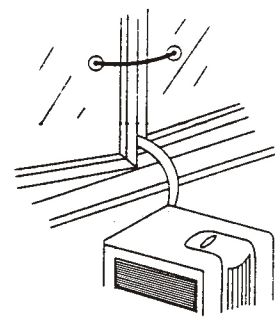

Fig. 3
3. The connecting pipe can cross the chink of the window. When the unit in operation, the window should be closed as tight as possible to avoid the loss of energy. (Fig.3)